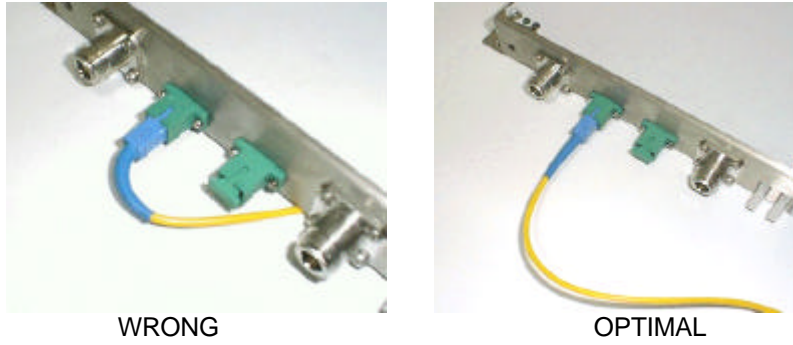

Figure 16 Optical Fiber Connection Examples
- ✓ *See Figure 16 for optimal fibre cabling.*